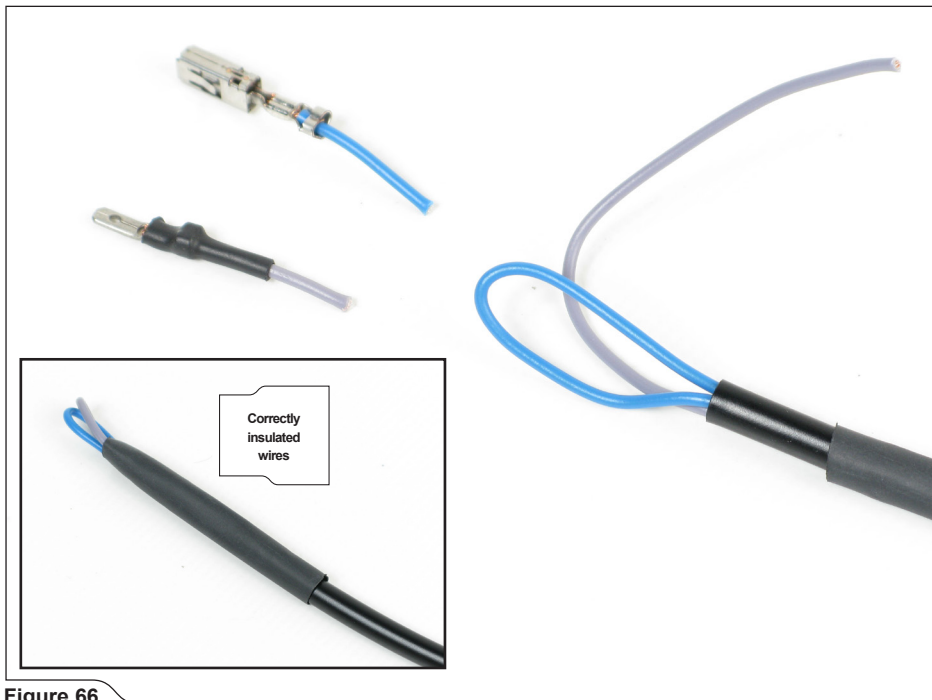

Figure 66
12. Cut off the unused gray and blue wire terminals/connectors and insulate the wires, using heat shrinkable insulation (included in Akrapovič kit) (**Figure 66**).